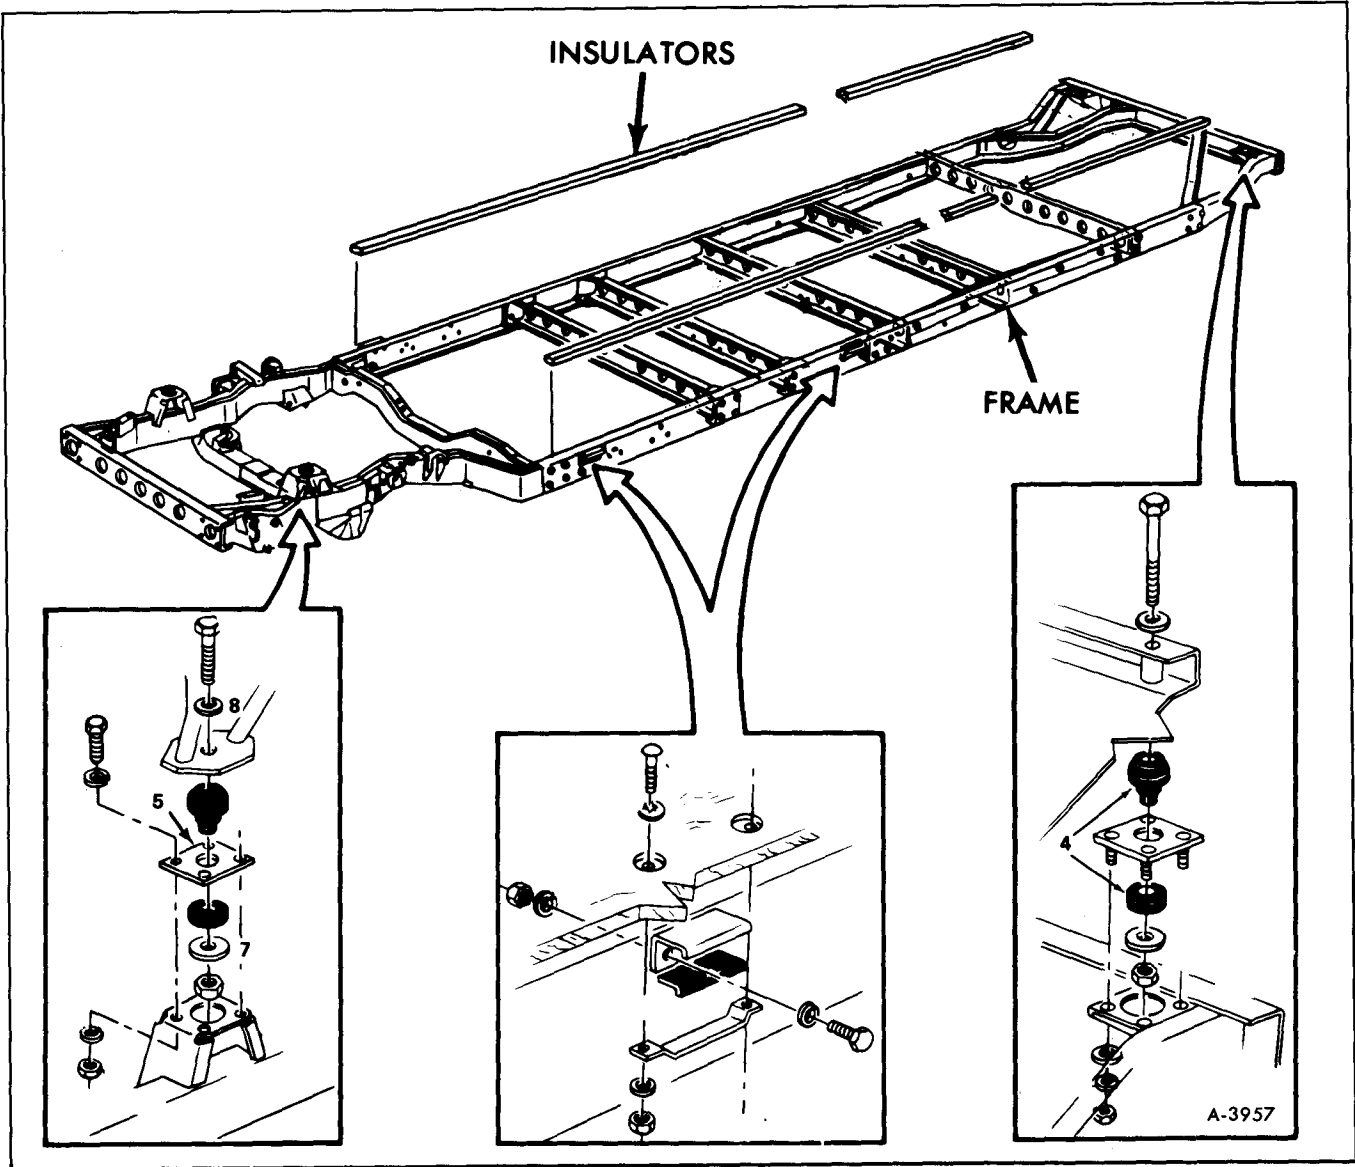

Figure 4—Body Mountings
5. Remove the bolt in each rear mounting pad. Location of mounts are shown in Figure 4.
Should it become necessary to replace any body mounting components, refer to figure 4. Front and rear body mount nut torque is 50 - 60 foot-pounds.
If any of the insulators between the frame and body must be replaced, be sure the old insulator is entirely removed. Then using a waterproof adhesive attach new insulator to frame in locations shown in Figure 4.
IMPORTANT: Some vehicles are equipped with insulators different than shown in Figure 4. Late model vehicles are equipped with 21 six-inch insulators located beneath the lateral crossmembers of the floor substructure.